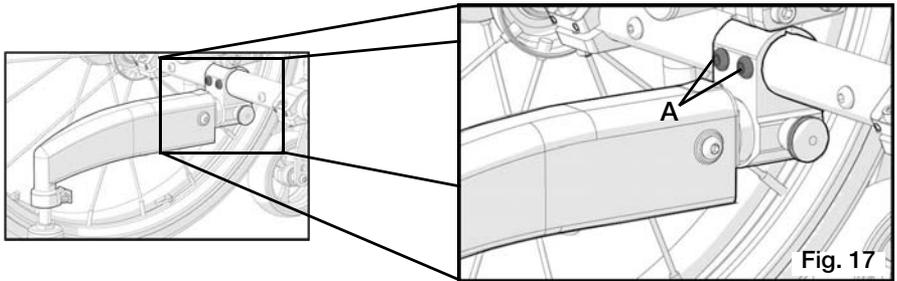

Fig. 17
3. Instructions for removal with DYNAMIC 5th wheel (Fig. 17):
- b. Using a 4mm hex wrench and 10mm wrench, remove the two 6mm socket head screws, washers and locknuts from receiver (Fig. 17:A).